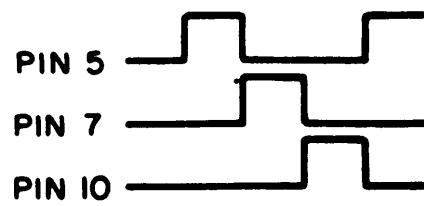

Figure 4-2. Pins 5, 7 and 10 Waveforms
*b.* Pins 5, 7 and 10 are outputs of the three-phase clock and should show the following waveforms (refer to fig. 4-2).